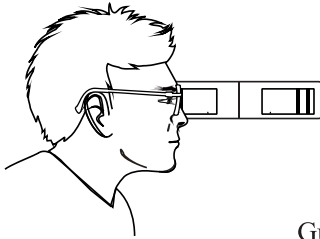

Fig. 9a
b. The optician makes inspection standing by the side of the testee, and the latter is preferably situated against the light. Place the instrument in the horizontal level (see Fig.9a), and target the guide mark at the top of cornea of the testee.